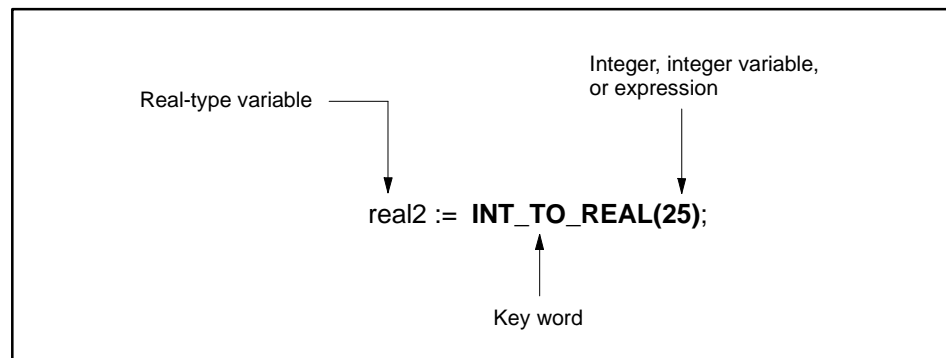

Figure 11-24 INT_TO_REAL Function
- The returned value is a real number. For example, in Figure 11-24, the value of the variable, **real2**, is 25.0.